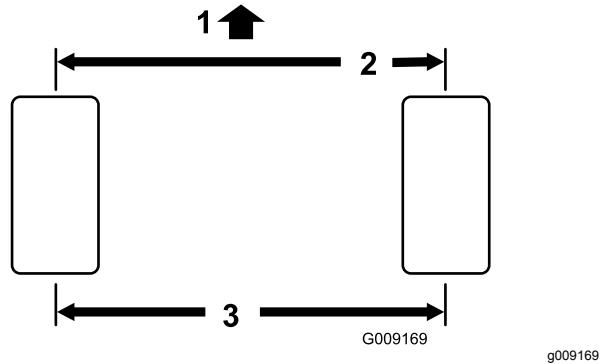

Figure 46
2. Measure the center-to-center distance (at axle height) at the front and rear of the steering tires (Figure 46).